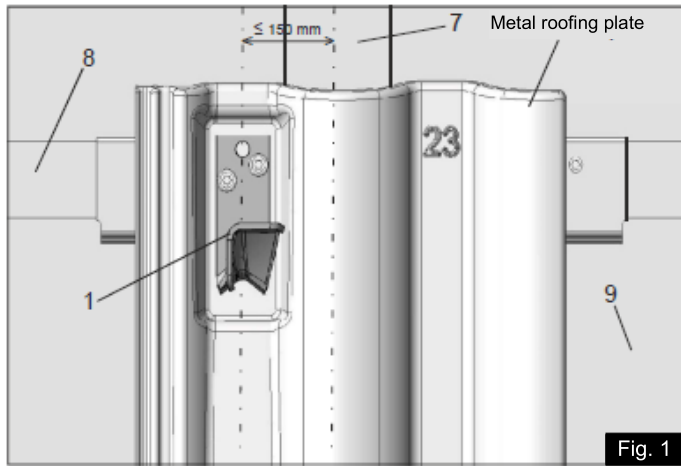
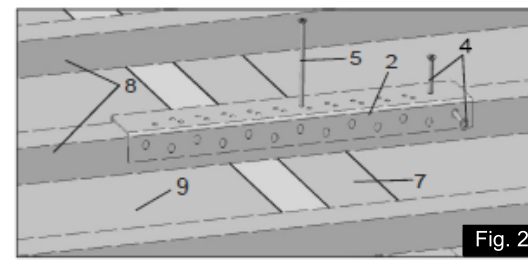

Fig. 1
Fig. 2
- (9) Over-rafter insulation
- Determine the position of the roof-mounted module bracket with metal roofing plate so that the distance between the holding element (1) and the middle of the counter batten does not exceed 150 mm. (Fig. 1)
- Place the reinforcement rail (2) on the roof batten centered on the counter batten.
- Slide the reinforcement rail (2) horizontally until the slotted hole of the support element (3) lines up with the hole of the reinforcement rail (2). Secure the reinforcement rail (2) with a screw (4) in the fall line. (screw (4) can also be screwed in from above). (Fig. 2)
- Remove the roof-mounted module bracket with metal roofing plate again and screw the reinforcement rail (2) onto the counter batten with screw (5). (Fig. 2)